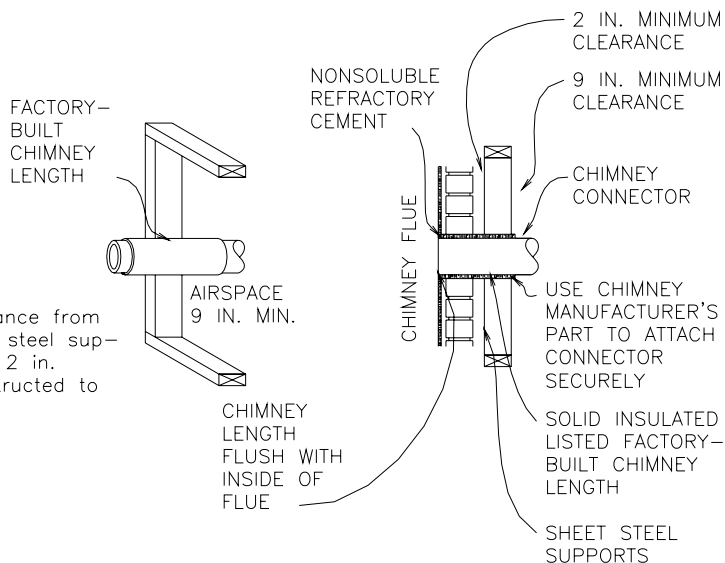

FIGURE 15: TYPE HT 2100⁰ FACTORY-BUILT CHIMNEY
4. A connector to a masonry chimney, except for the installation shown in FIGURE 15, shall extend in one continuous piece through the wall pass-through system and the chimney wall to the inner face of the flue liner, but not beyond.